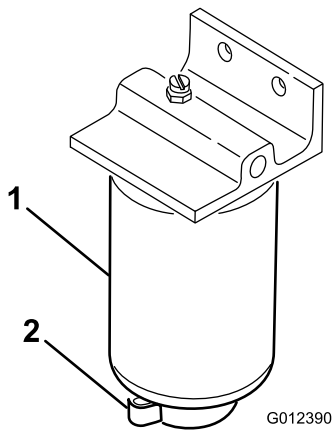

Figure 33
1. Place a clean container under the fuel filter (Figure 33).
1. Clean the area where the filter canister mounts (Figure 33).